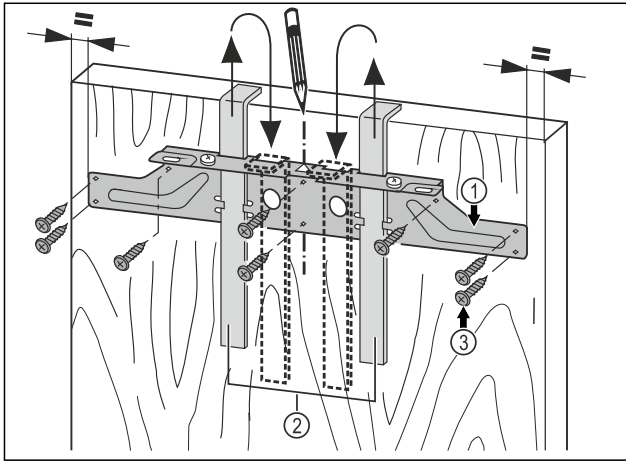

Fig. 43
- Hang the fastening crossbeam Fig. 43 (1) with the assembly aids Fig. 43 (2) on the inside of the unit door.
- Align the fastening crossbeam Fig. 43 (1) in the center of the door.
- Screw down the fastening crossbeam Fig. 43 (1) with at least 6 screws Fig. 43 (3).
- Screw down the fastening crossbeam Fig. 43 (1) to the edge with 4 screws Fig. 43 (3).
- Pull out the assembly aids Fig. 43 (2) upwards and insert them rotated into the adjacent openings.